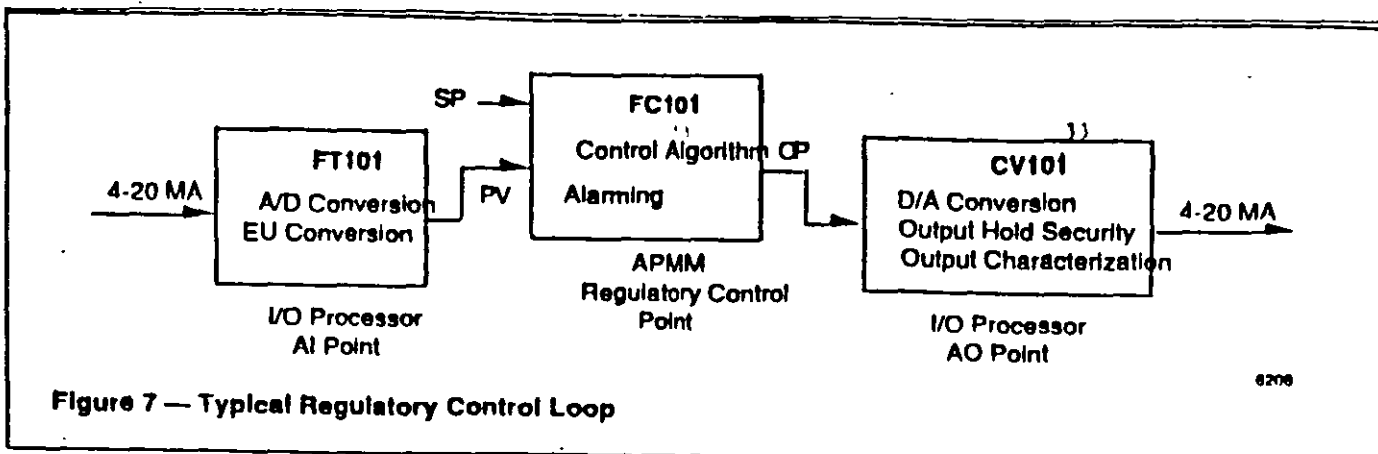

Figure 7 — Typical Regulatory Control Loop
(2) Requires Power Adapter FTA (see Figure 6 and Figure 7).